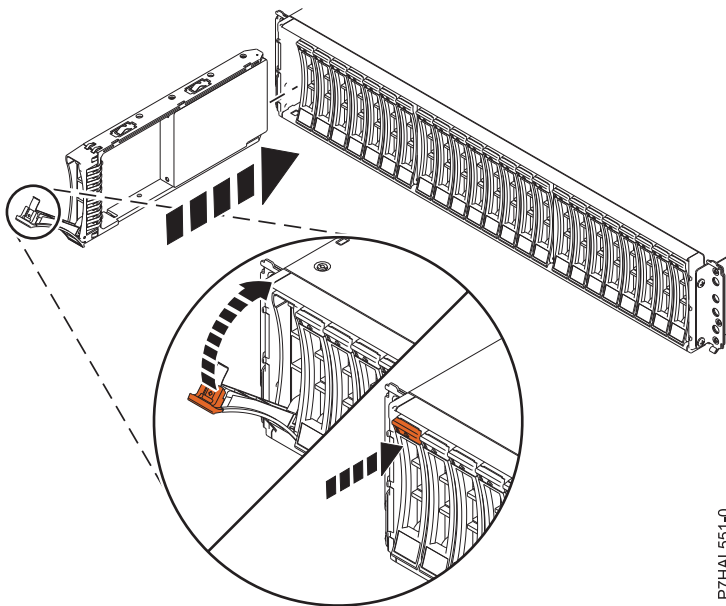

Figure 35. Installing or replacing the disk drive in an ESLL or ESLS storage enclosure
2. With the handle in the unlocked position, as shown in Figure 35, support the bottom of the drive as you align it with the guide rails in the enclosure.
6. Lock the drive by rotating the handle (A) in the direction that is shown in Figure 35.